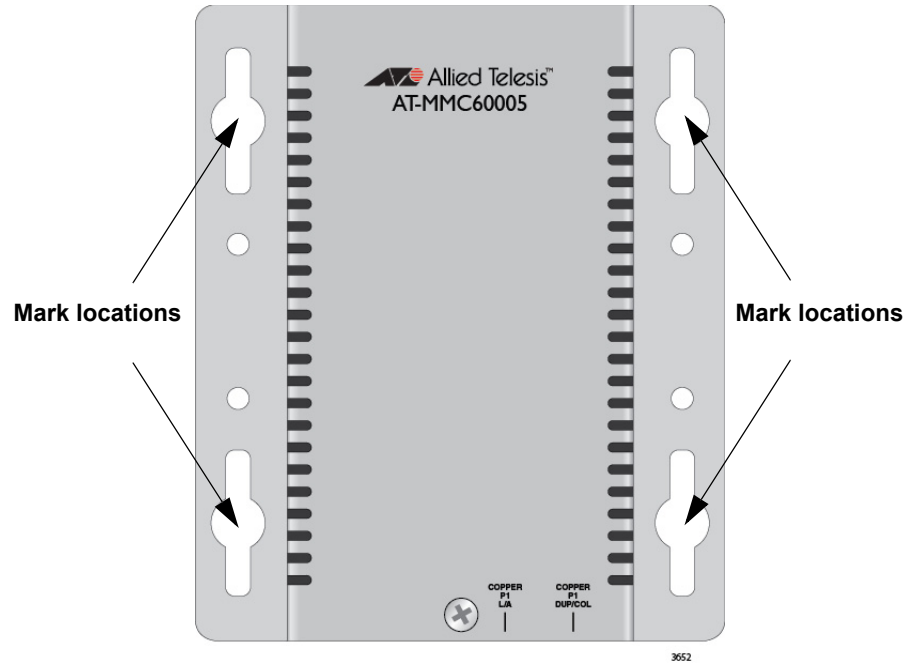

Figure 11. Marking the Screw Hole Locations
4. Use a pencil or pen to mark the wall with the locations of the four holes in the brackets. The unit should be oriented as shown in Figure 11 on page 38.